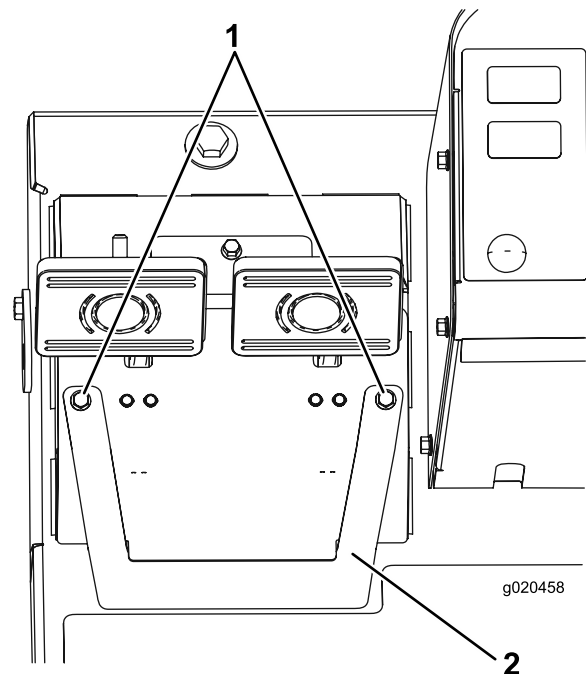

Figure 67
- A. Loosen the 2 mounting screws and remove the brake-adjustment cover (Figure 67).